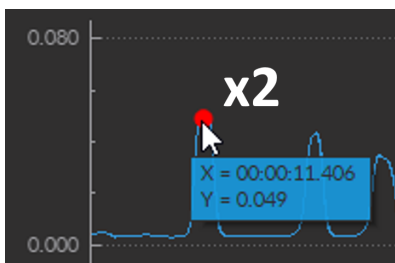

Figure 10.49: Instantaneous Value
- **Instantaneous point** - *Double clicking* (Fig. 10.49) on any element of the trace within a graph adds a red dot over that section. Mousing over the dot with the cursor displays the X- and Y-coordinates of the data point. These data points are strictly a visualization tool and their coordinates will not be saved with the rest of the data. To remove a created dot, double-click on it a second time.